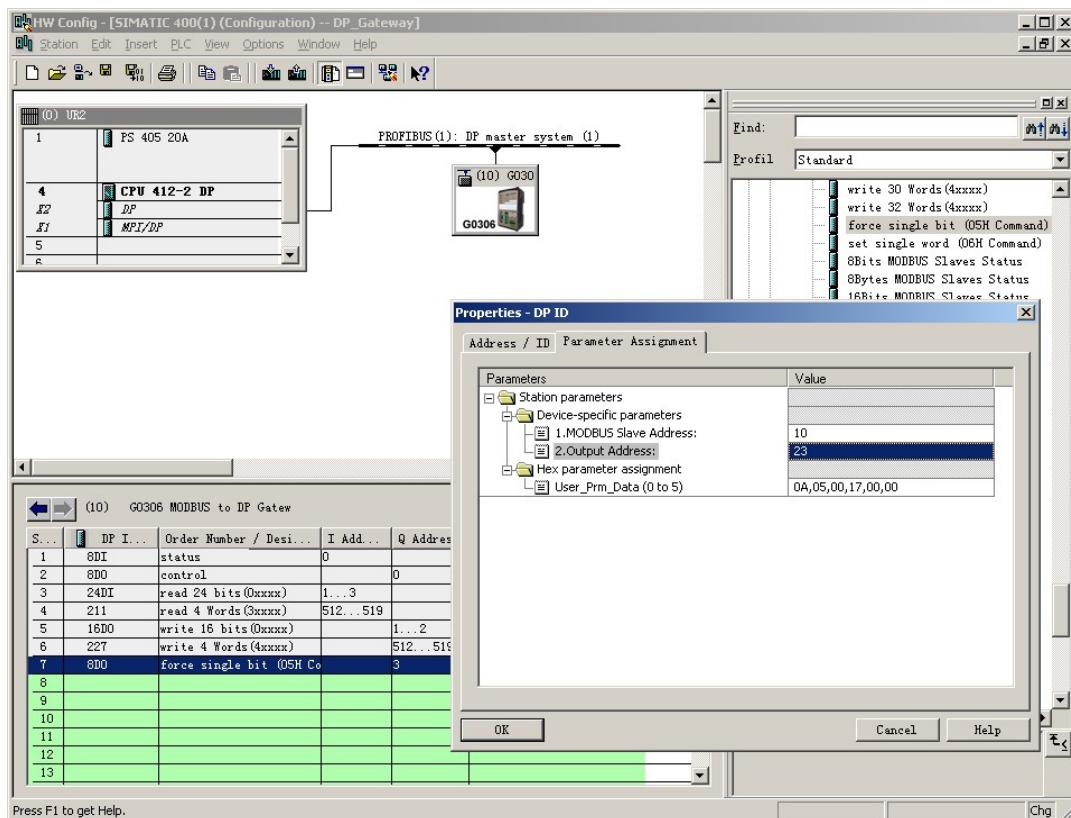

Figure 29 Configure "force single bit (05H Command)" module user parameters
b) Configure the user parameters of the "force single bit (05H Command)" module, as shown in Figure 29:
"1.MODBUS Slave Address:"⇒ Type the Modbus slave address 10, as shown in Figure 29.
"2.Output Address:"⇒ Type in the output address 00024 of the coil 0xxxx to be written, and set the address to 23⇒"OK", as shown in Figure 29